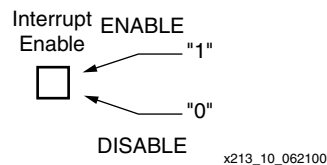

Figure 13: **ENABLE INTERRUPT** Instruction
These instructions are used to set and reset the INTERRUPT ENABLE flag. Before using ENABLE INTERRUPT, a suitable interrupt routine must be associated with the interrupt address vector (FF). Never enable interrupts while performing an interrupt service (Figure 13).